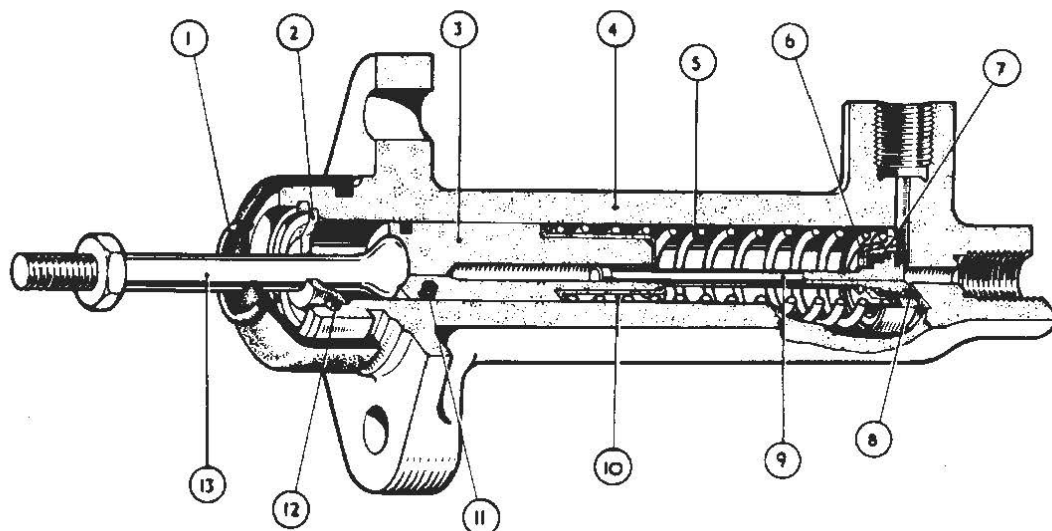

FIG. 1.
When reconditioning a brake master cylinder of the type shown in Fig.1. attached, the following procedure should be adopted.
- (1) Remove the dust excluder from the head of the master cylinder.
- (2) Remove the circlip (using circlip type pliers if available, alternatively, round nose pliers may be used). This will release the push rod complete with dished washer.
- (3) Withdraw the piston and valve assembly complete with springs and supports.
- (4) Discard the piston and valve assembly (items 3, 5, 6, 7, 8, 9, 10 and 11 on Fig.1) and the circlip (12).